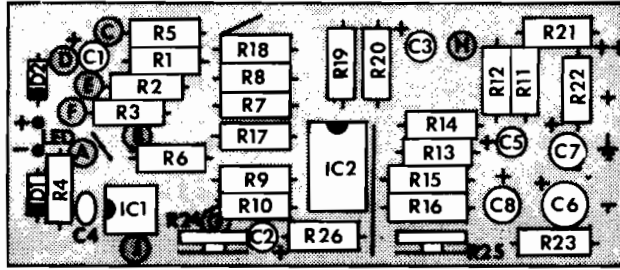

Figure 2
Solder each of the fixed value resistors in place following the parts placement designators printed on the circuit board and the assembly drawing figure 2. Note that the fixed value resistors are non-polarized and may be mounted with either of their two leads in either of the holes provided. Cinch the resistors in place prior to soldering by putting their leads through the holes and pushing them firmly against the board; on the conductor side of the board bend the leads outward to about a 45° angle. Clip off each lead flush with the solder joint as the joint is made. Save the lead clippings for use as jumpers in later steps.
Install the diodes D1 and D2. Note that these parts are polarized and must be properly oriented in order to operate properly. Polarization of the diodes is indicated by a colored band on one end of the case. Install as shown in figure 2. The physical appearance of the device is related to the schematic symbol used on the circuit board parts placement designators in figure 3.
- ( ) Using the excess leads clipped from resistor installation, form and install the three wire jumpers indicated by the solid lines printed on the circuit board and shown in the parts placement diagram figure 2.